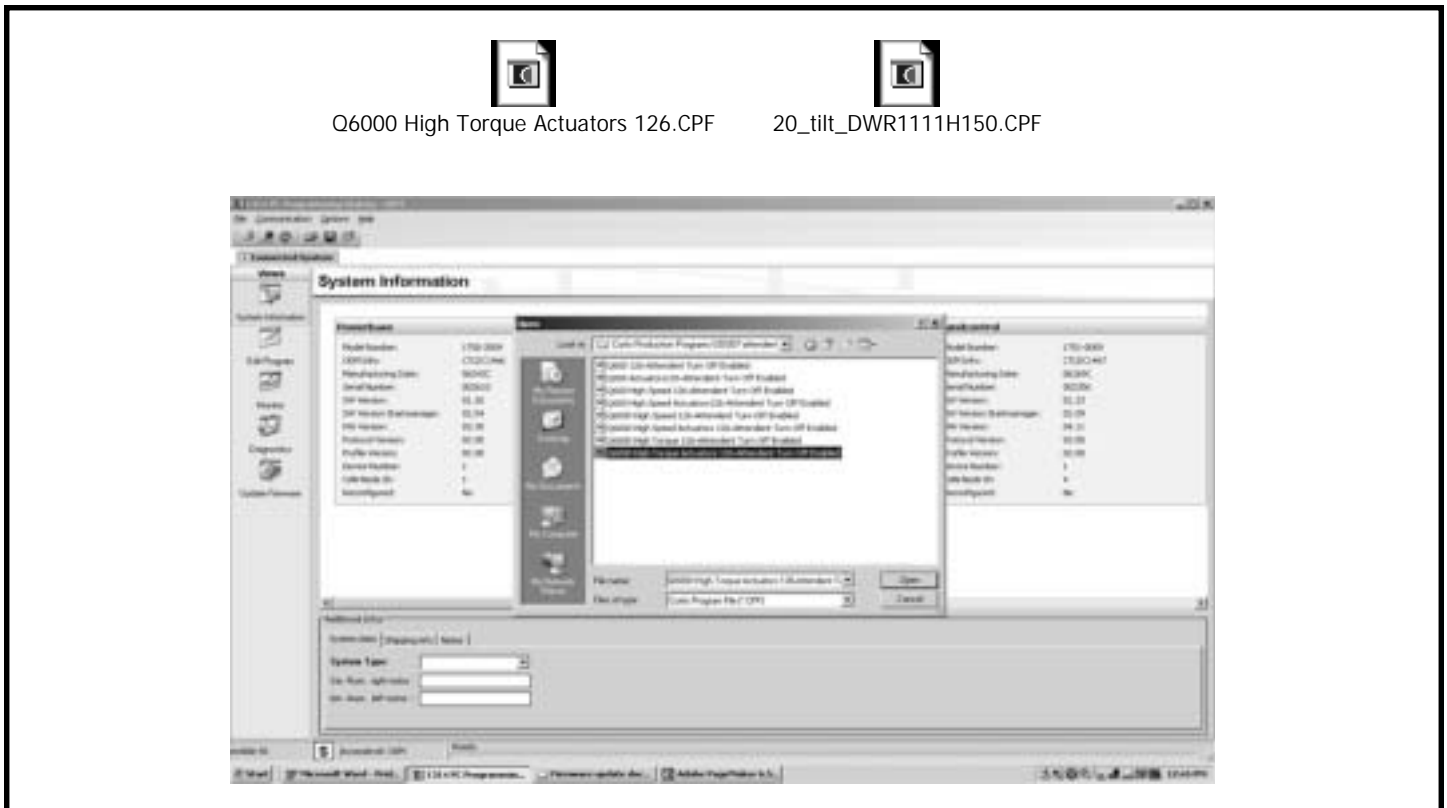

Figure 49. Program (.cpf) Select Screen
- Click on the yellow folder icon near the top left of the screen and select the previously saved file. The icon for the power module will be labeled by model number and the icon for the actuator module will be labeled by the configuration number and power functions it will activate. See figure 49.